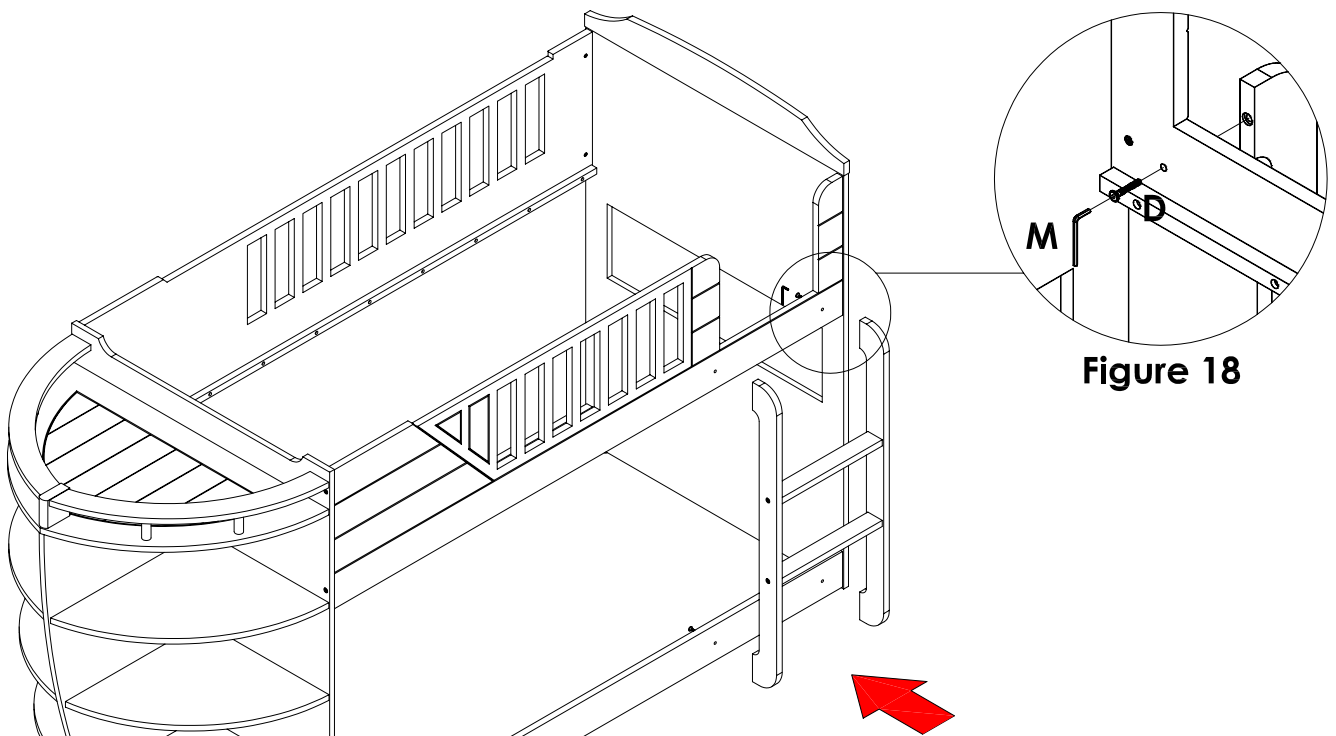

Figure 18
1. Attach and secure **Ladder** onto **Guard Rail (Ladder Side)** and **Side Rail (Ladder Side)** by screwing in **JCBC Bolts (C)** in from behind as shown in **Figure 18**, tighten it up by using an **Allen Key (M)**.